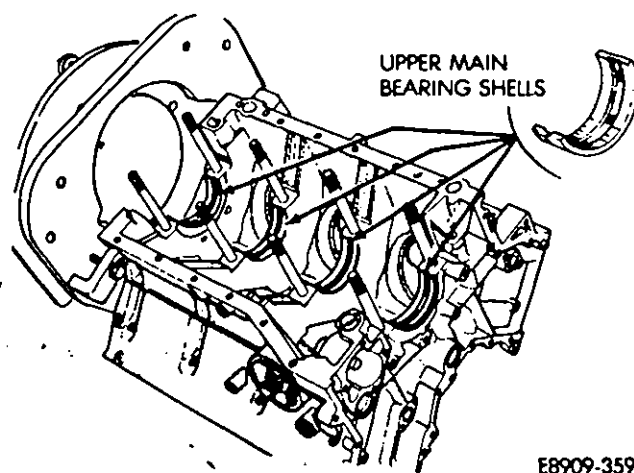

Fig. 20—Upper Main Bearing Shells
(1) Install the oil galley plugs with new gaskets.
(2) Check that the cylinder head bolts thread in and out of the bolt holes easily. It may be necessary to clean the threads.
(3) Upper main bearing shells have an oil groove down the middle (Fig. 20). Install them with the locating tabs on the back of the bearings positioned in the locating grooves of the cylinder block.
(4) The lower main bearing shells are not grooved. Install them into the main bearing caps.
(5) Thrust bearings are available as kits in four different sizes: